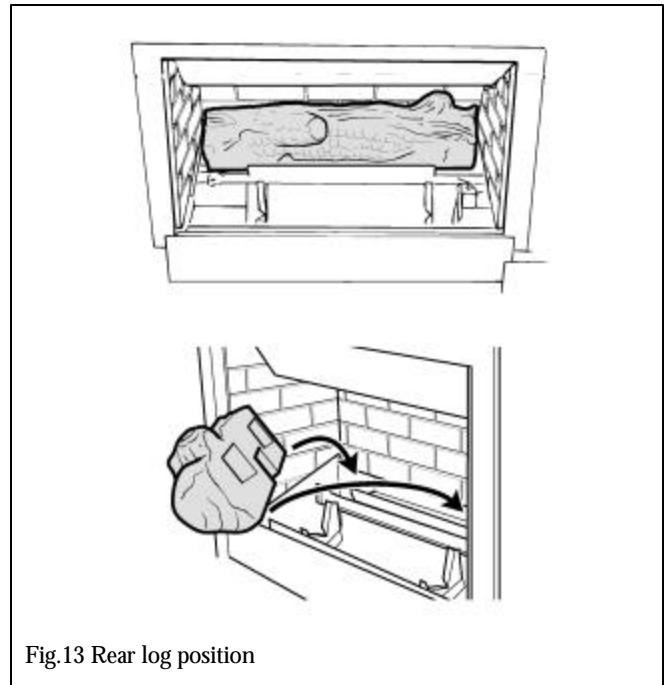

Fig. 13 Rear log position
- 12.3** Place the rear log in the retaining cradle behind the rear burner tube with its back against the back wall. Center the log so that the gap to the side wall is the same at each side (see figure 13).